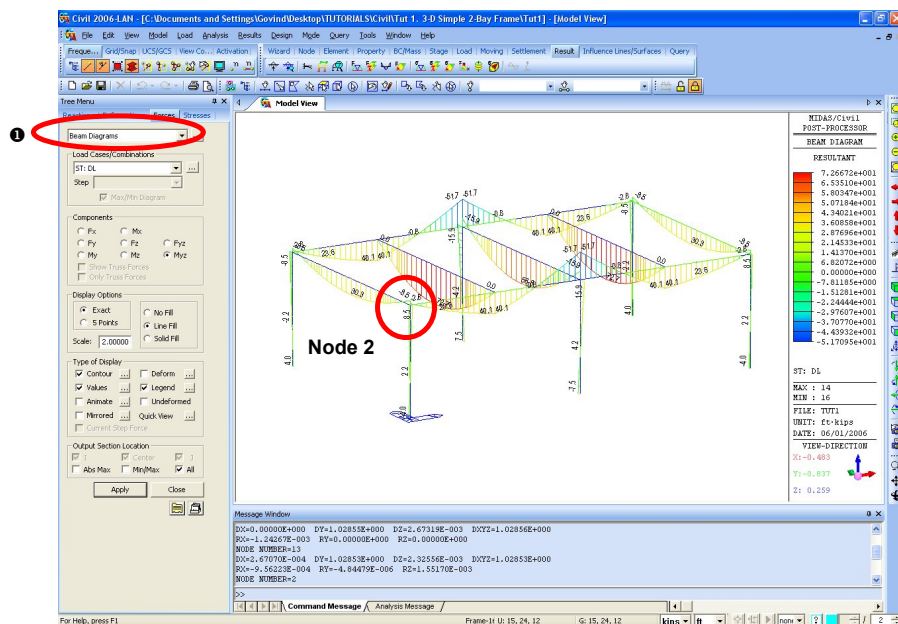

Figure 1.32 Bending Moment Diagram
1. Select **Beam Diagrams** from the functions selection field (Fig.1.32–①).
4. Magnify partially node **2** in Fig.1.32 by **Zoom Window**.